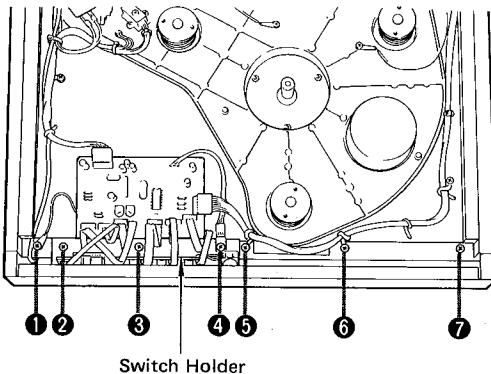

Fig. 2
② FRONT PANEL REMOVAL
1. Remove the cabinet bottom. (Refer to step ①)
2. Remove screws ① to ⑦ in Fig. 2 and remove the switch holder by pulling the front panel slightly forward (at this time remove the lead wires connected to the quartz lock LED) then remove the front panel.